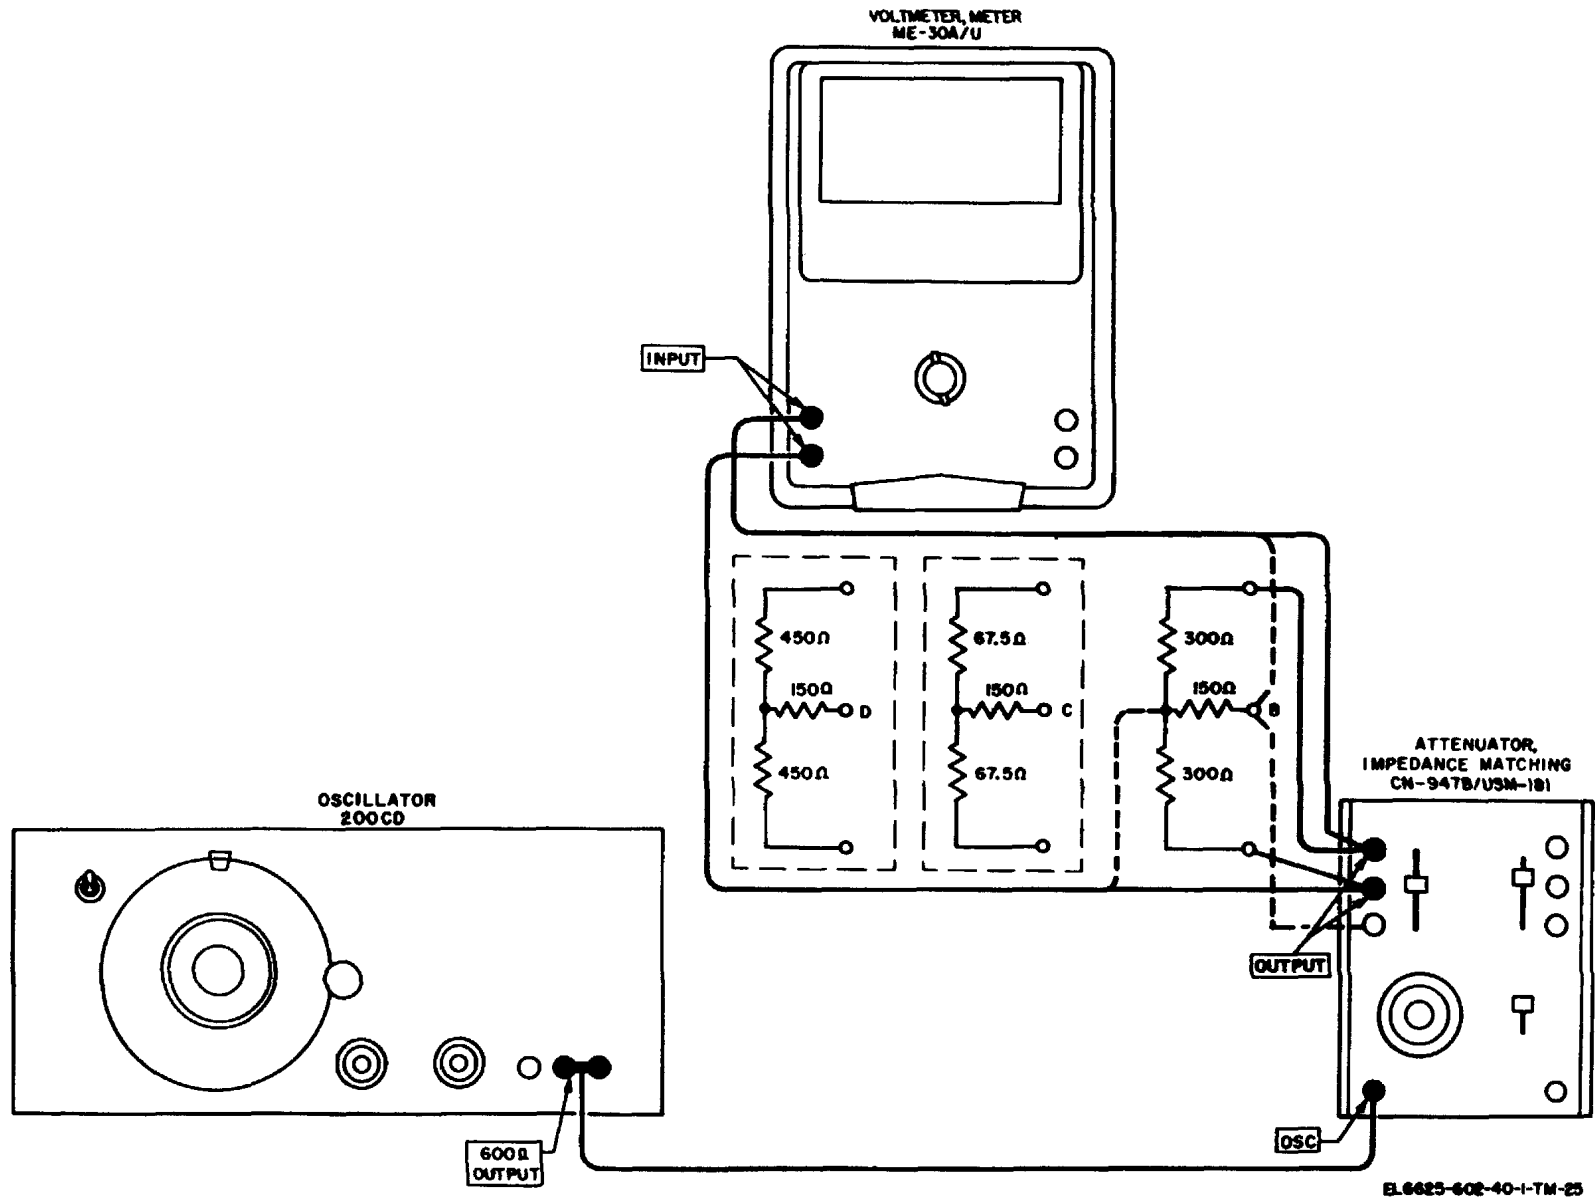

Figure 5-7. Attenuator, Impedance Matching CN-947B/USM-181 output balance test.
b. *Test Connections and Conditions.* Connect the equipment as shown in figure 5-7.